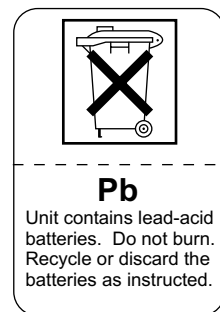

Figure 13. Battery recycle label on battery unit of uninterruptible power supply
2. Battery recycle label. See Figure 13.